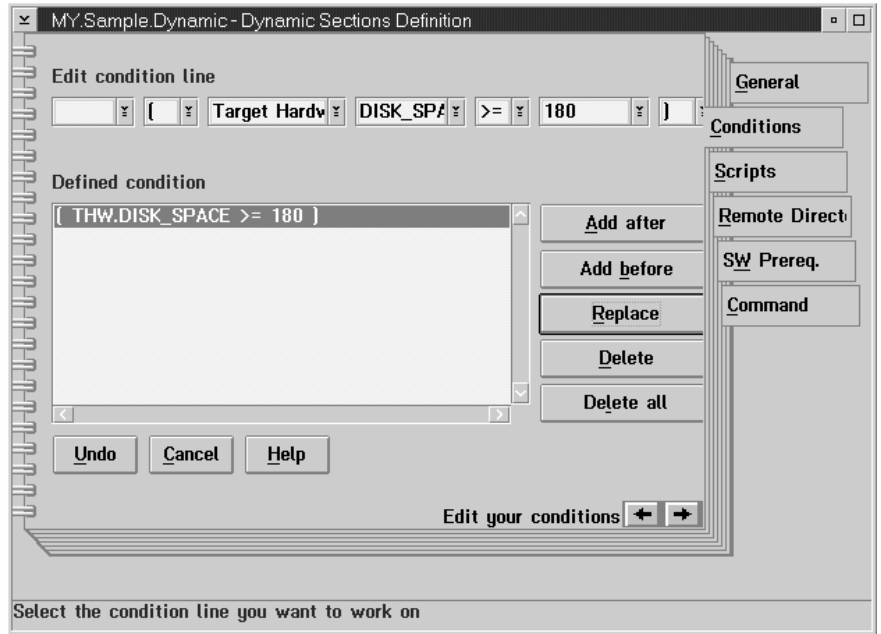

Figure 145. Dynamic section - create notebook - condition page
The Condition page appears, as shown in Figure 145 on page 223.
- 19 Fill in the entry fields contained in the Edit condition line group, to define the rule for the second condition [DISK_SPACE >= 180], as shown in Figure 145.